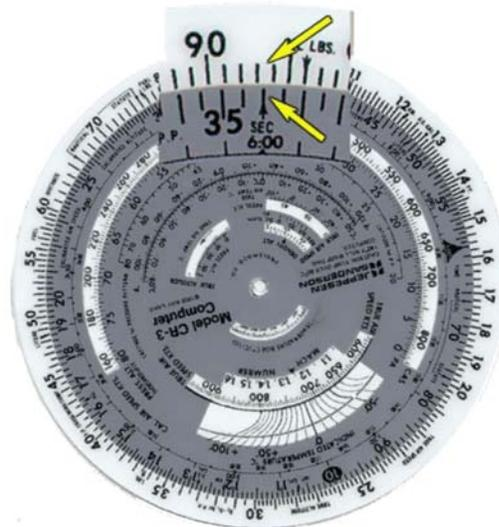

Figure 4.3-27 Fuel Flow 2
3. Opposite the High-Speed Rate Index (3600 sec) located on the TIME (inner) scale, read the amount of fuel consumed in one hour on the outer (FUEL) scale. (Figure 4.3-27)